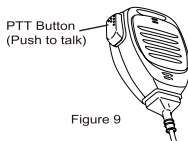

Figure 9
1. Hold the microphone about 2 cm from your mouth when speaking and press the PTT (push to talk) button (Figure 9). The red LED lights during call.
2. Release PTT to return to the receive/listen (RX) mode. To receive your radio must be switched to the proper channel and set with matching signaling or Color Code and Group ID if used in digital mode.